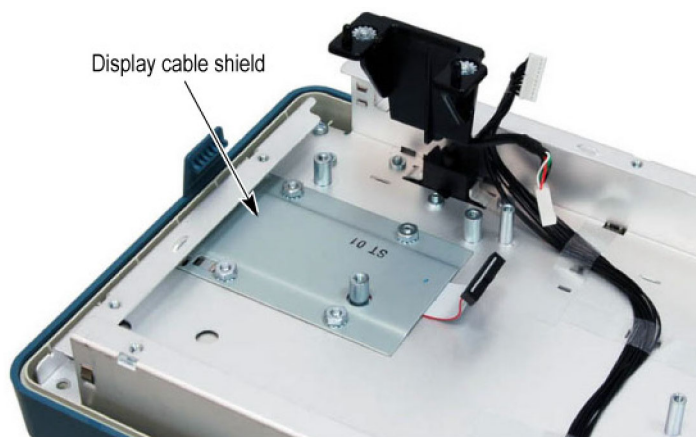

Figure 11: Display cable shield in place
2. Remove the four $\frac{5}{16}$ in nuts that connect the display cable shield to the front chassis, and remove the display cable shield. When reinstalling torque these nuts to 8.0 in/lb. (See Figure 11.)